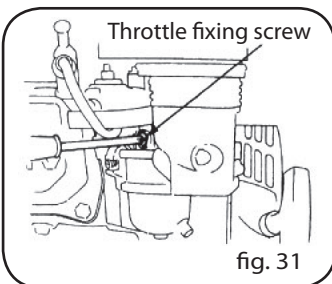

fig. 31
- Start and preheat the engine until arriving at its normal working temperature (Fig. 31).